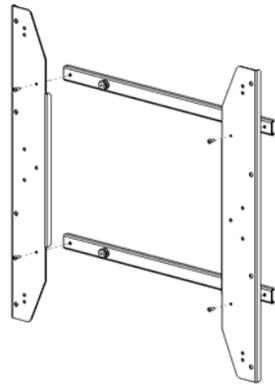
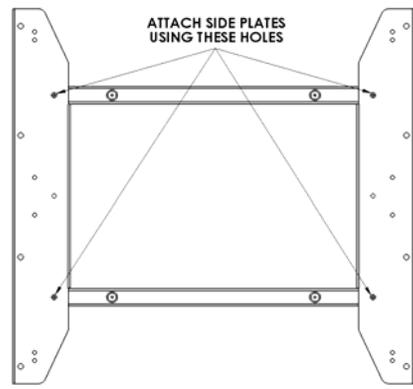

Figure 4
Figure 5
- Using four 10-24 button head cap screws, attach top and bottom to side brackets (see Figure 4 & Figure 5).